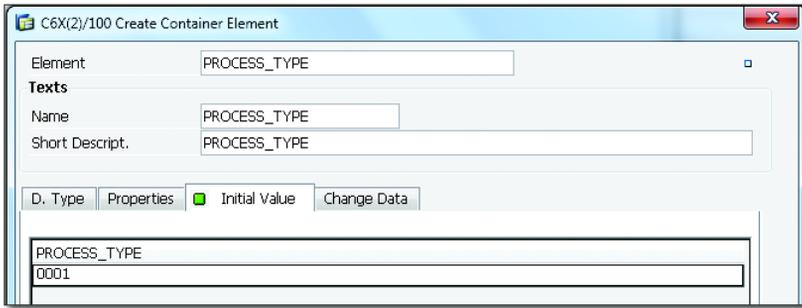

Figure 6.10 Defining the Process Type within the Container Element
- In the INITIAL VALUE tab, you need to assign the transaction type of the activity (see Figure 6.10). In this example, we're looking at the interaction log, which has the customer visit category.